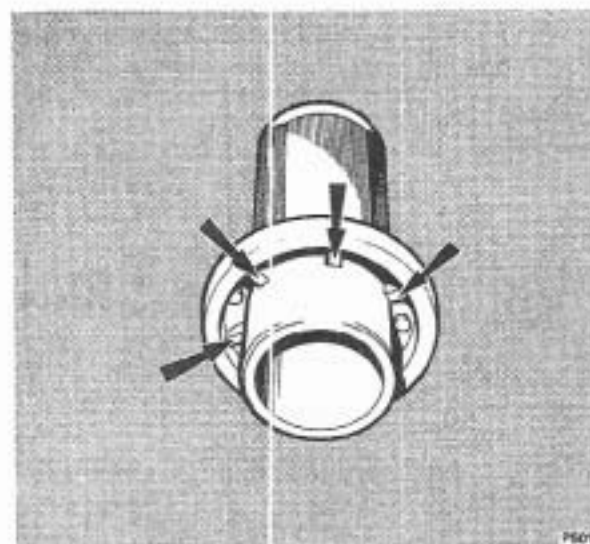

FIG. T220 UNDER CUTTING WEBBING OF SEAL INSTALLATION TOOL RH 7953 (J-21359)
**Note** The webbing on the seal installation tool RH 7953 (J-2 359) must be undercut by approximately 0.125 in. (3.17 mm.) as shown in Figure T220.